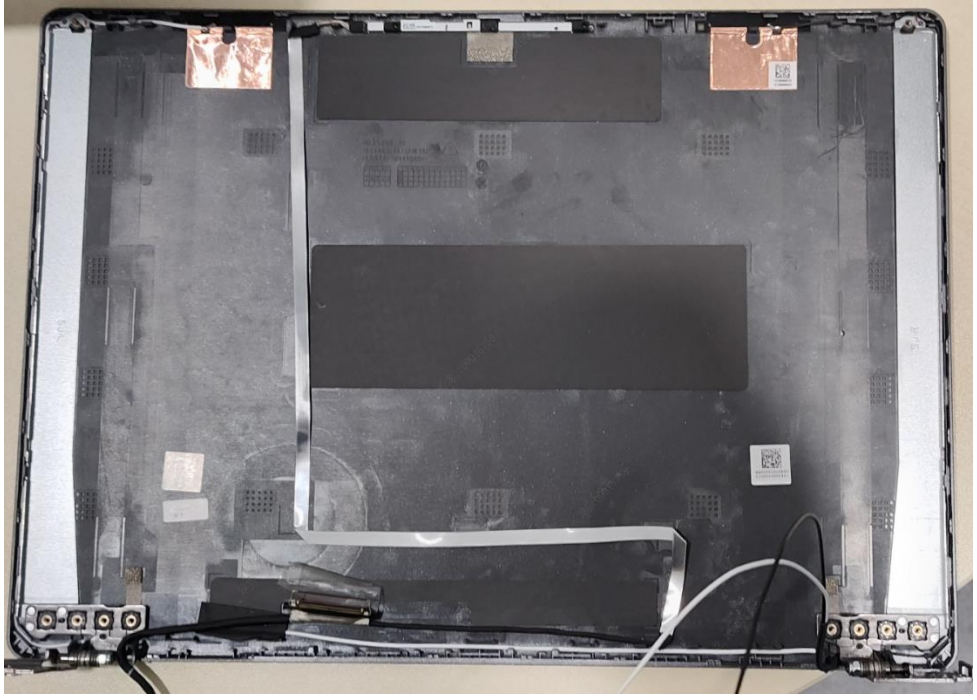

Figure 3-48. LCD Hinges Removal
4. Remove the hinge from LCD cover (Figure 3-48).